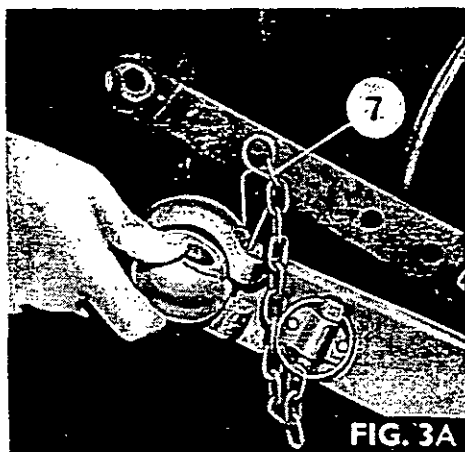

FIG. 3A
1. Fig. 3A. Pull the spring clip (7) upwards, as shown.